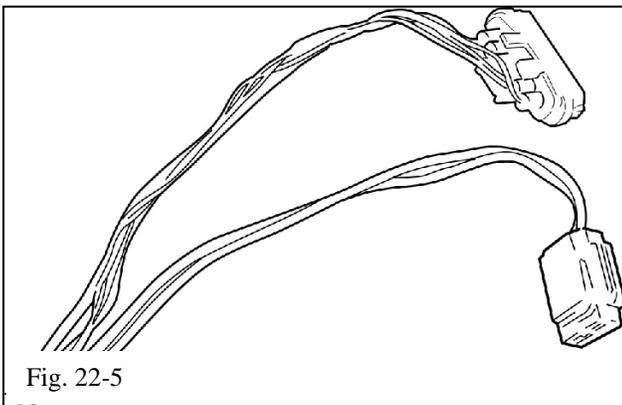

Fig. 22-5
- (g) Open the wire harness and remove the wire loom wrap up to the junction where the wire loom that contains the throttle and air injection wires branch out from the main harness (Fig. 22-5).
- (h) Separate the throttle motor wires from the air injection wires (Fig. 22-5).